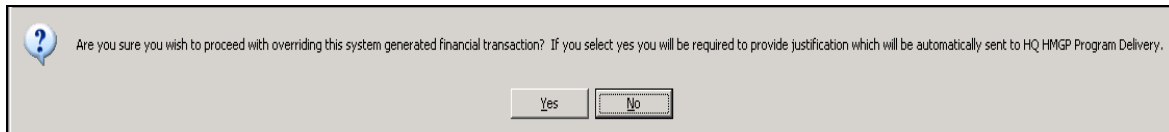

Figure 10-72: Recipient Admin Override 2nd acknowledgement message
12. Selecting No will return the amount overridden to the previous amount calculated by the system. Selecting yes will prompt a second acknowledgement confirmation. (Figure 10-72).